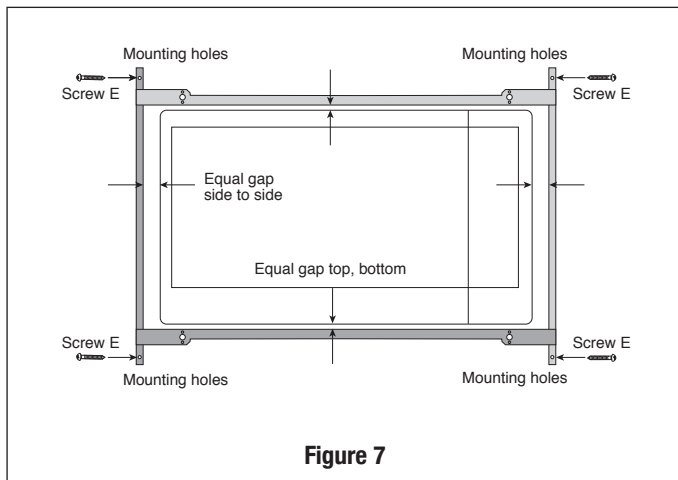

Figure 7
4. **BACK FRAME INSTALLATION:** Position back frame with equal space top to bottom, side to side. Mark for 4 holes, center punch and pre-drill the cabinet with 1/16" drill bit. Secure frame with 4 SCREWS E. See Figure 7.
4. **BACK FRAME INSTALLATION:** Position BACK FRAME equal space top to bottom, side to side. Mark for 4 holes on the installed wood cleats, center punch and pre-drill the cabinet with $\frac{1}{16}$ " drill bit. Secure frame with 4 SCREWS E. See Figure 7.